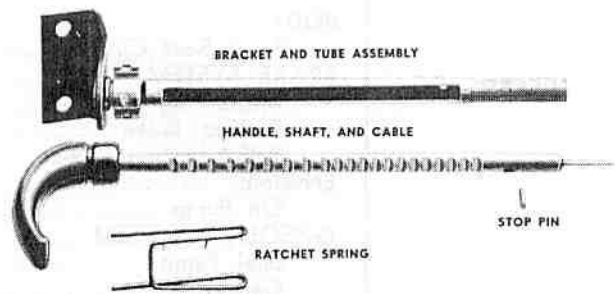

FIG. 350
**CHAMPION AND COMMANDER** The parking brake assembly illustrated in Fig. 350 is used in the 1948 closed bodies. The handle, shaft, and cable assembly can be removed from the tube and bracket assembly by taking the stop pin out of the shaft. A hole for the punch is provided in the tube. The ratchet spring may also be slipped out of its retainer for replacement.